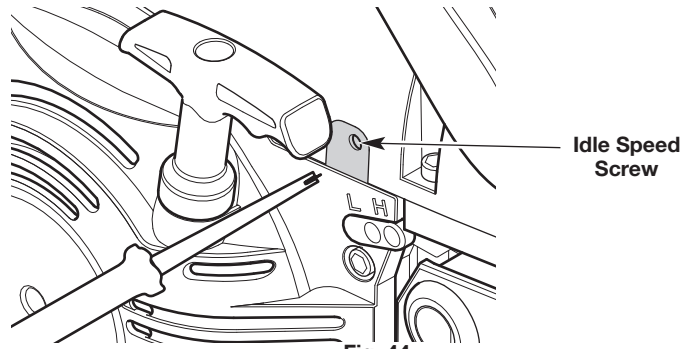

Fig. 44
- If the engine stops, use a small Phillips or flat-head screwdriver to turn the idle speed screw clockwise, 1/8 of a turn at a time (as needed) until the engine idles smoothly (Fig. 44).
- If the engine idles too quickly, turn the idle speed screw counterclockwise, 1/8 of a turn at a time (as needed) to reduce the idle speed (Fig. 44).